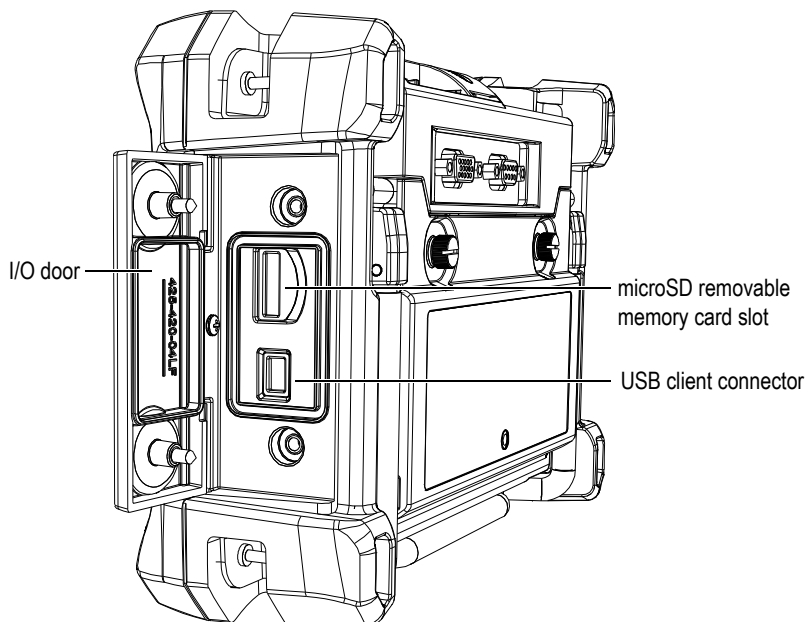

Figure 8-5 The connectors behind the I/O door
1. Ensure that a microSD memory card is inserted in its slot under the I/O door on the right side of the Magna-Mike 8600 (see Figure 8-5 on page 144).